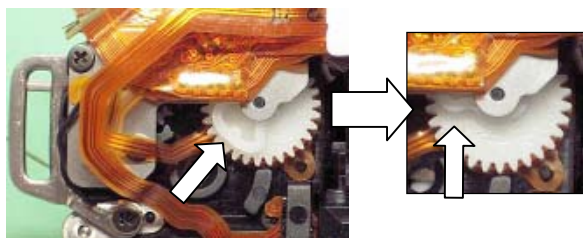

Fig.14
- Set 0-C17 (Cam gear assy) at the position where the cam portion of 0-C17 cannot be seen as shown in Fig.14.